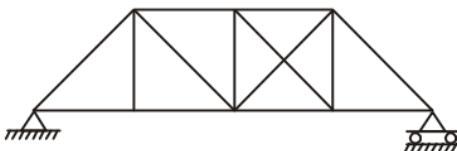

Fig. 24.
- b. Find static indeterminacy and kinematic indeterminacy of the given structure. See Fig. 24.**
**Ans.****Given :** Truss shown in Fig. 24.**To Find :** Static indeterminacy and kinematic indeterminacy.